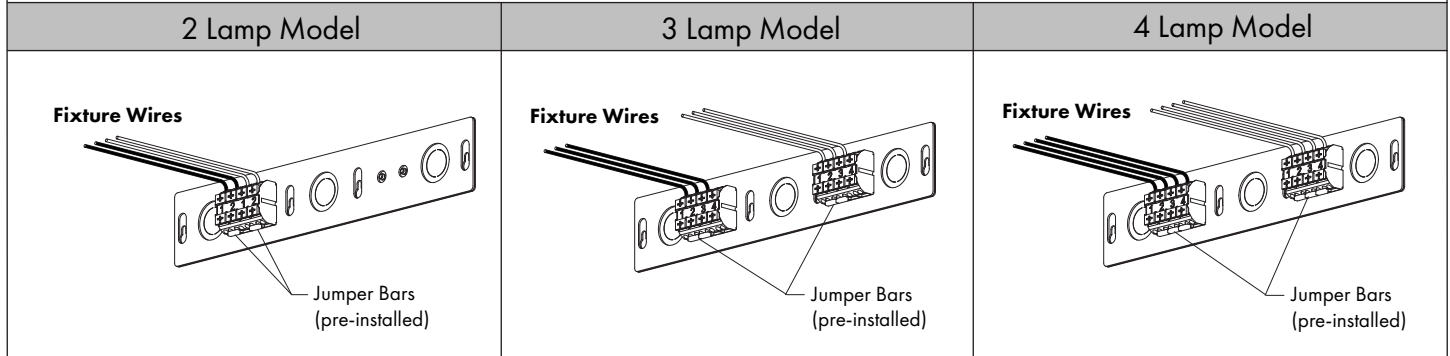

FIG 23.1 Jumper Bars
- STEP 1** Ensure jumper bars are installed in terminal blocks as shown - **FIG 23.1**.